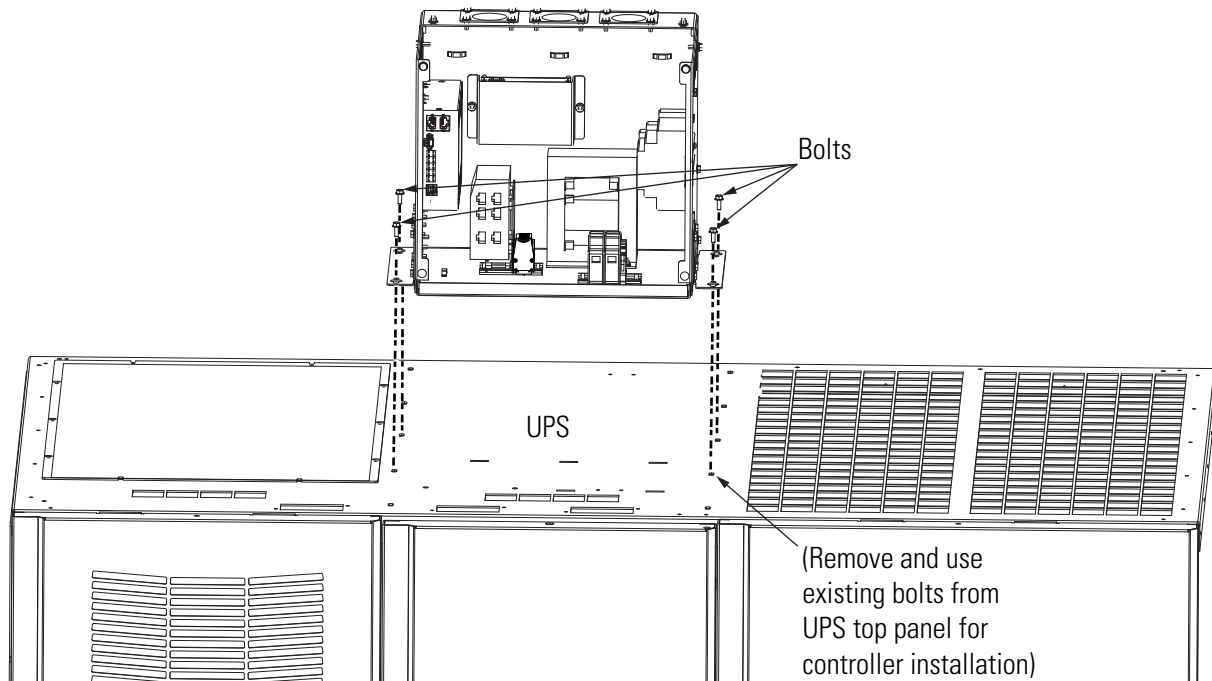

Figure 7. Controller UPS Installation
1. Remove the four bolts from the top of the UPS (see Figure 7).